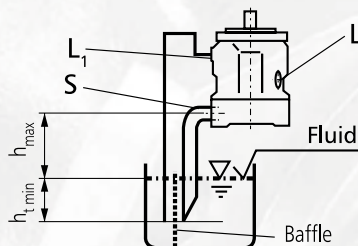

Fig. 2
- If the minimum fluid level is below the pump mounting face pipe port "L₁" and "S" according to Fig. 2.
Before installation fill the pump housing, keeping it in a horizontal position. For mounting above reservoir see Fig. 2.